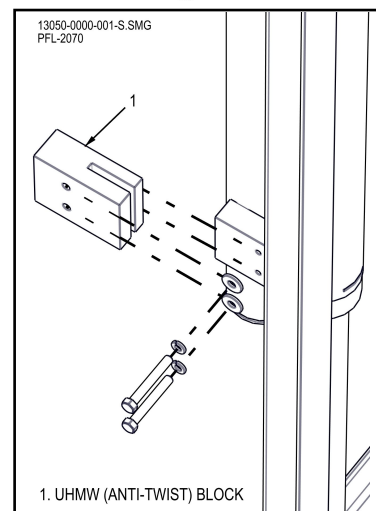

Figure 19
1. Mount UHMW (slide) block to tapped block on cylinder with 5/16 x 2 1/2" long bolts, washers and lockwashers. See Figure 19.
3. Make sure that the UHMW block is not coming off the bottom of the guide angle. There should be approximately 3" of guide angle visible below the block. See Figure 19.